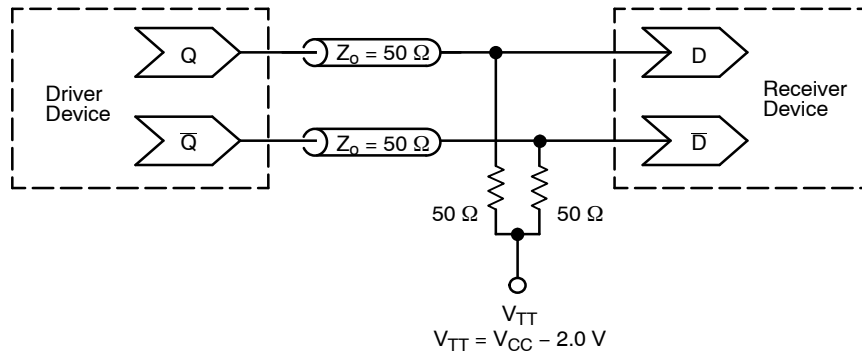

Figure 10. Typical Termination for Output Driver and Device Evaluation (See Application Note AND8020/D – Termination of ECL Logic Devices.)
6. All loading with 50 Ω to $V_{CC} - 2.0\text{ V}$ (see Figure 10).
9. All loading with $50\ \Omega$ to $V_{CC} - 2.0\text{ V}$ (see Figure 10).
12. All loading with $50\ \Omega$ to $V_{CC} - 2.0\text{ V}$ (see Figure 10).
15. All loading with 50 Ω to $V_{CC} - 2.0\text{ V}$ (see Figure 10).
18. All loading with 50 Ω to $V_{CC} - 2.0\text{ V}$ (see Figure 10).
20. Measured using a 750 mV source, 50% duty cycle clock source. All loading with 50 Ω to $V_{CC} - 2.0\text{ V}$ (see Figure 10).